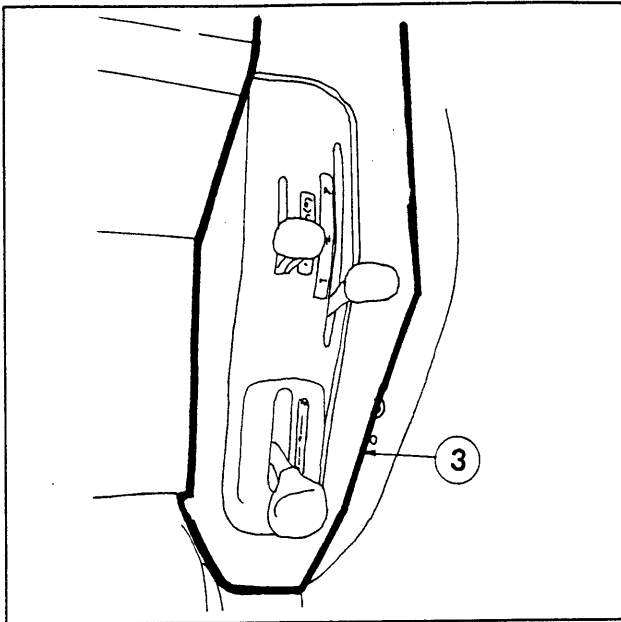

Figure 3
6. Take the left 21"x42" odd-shaped piece of upholstery (3) and position it against the top of the left fender. Line up the outside edge of the upholstery with the bottom, outside edge of the fender. Lower the upholstery until the bottom edge contacts the operator foot platform. Cut the upholstery to conform to the shape of the fender. Glue the upholstery to the fender. Reattach the left fender control shield. (see Figure 3)